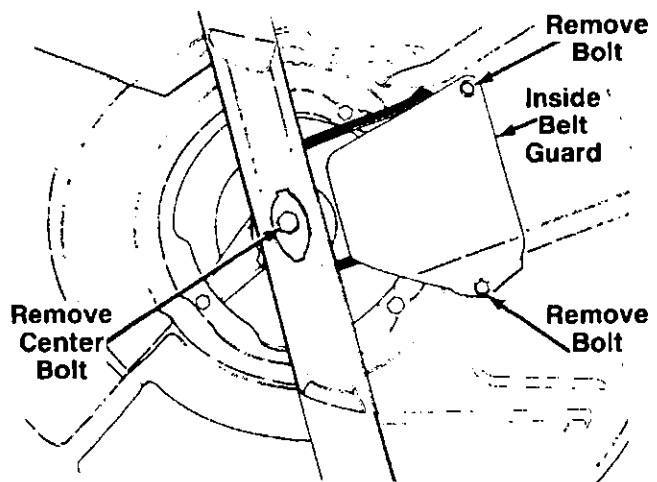

FIGURE 22.
5. Remove the center bolt which secures the blade to the crankshaft. See figure 22. Remove the blade, blade adapter and pulley half. Remove the belt.
6. Remove the inside belt guard by removing two self-tapping screws. A 3/8" wrench is required. See figure 22.